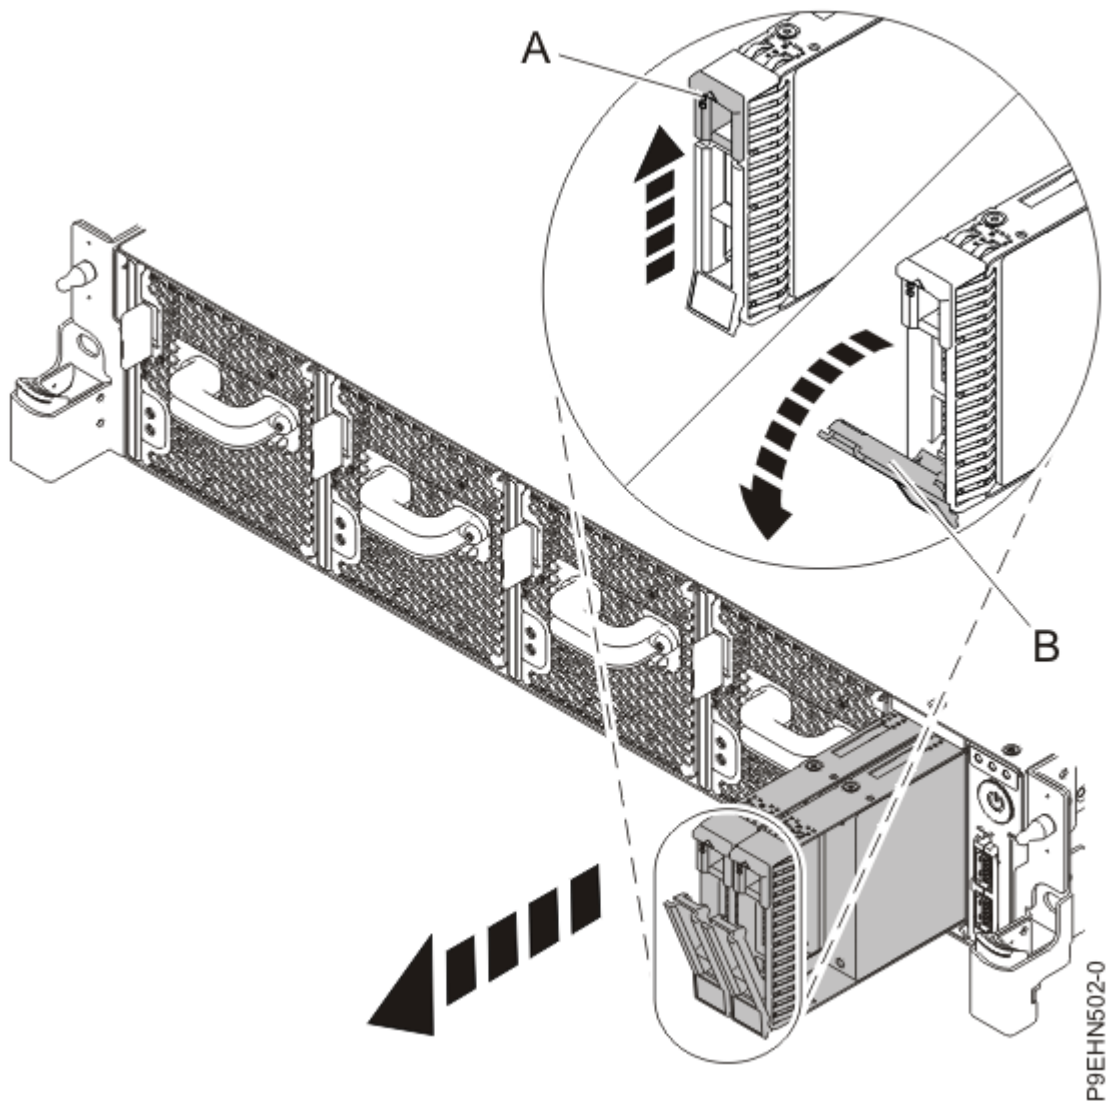

Figure 5. Disk drive lock detail
4. Unlock the drive bay handle **(B)** by pushing the handle release **(A)** up. The handle **(B)** snaps out towards you. If the handle does not snap out all the way, the drive does not slide out of the system. See Figure 5 on page 9.